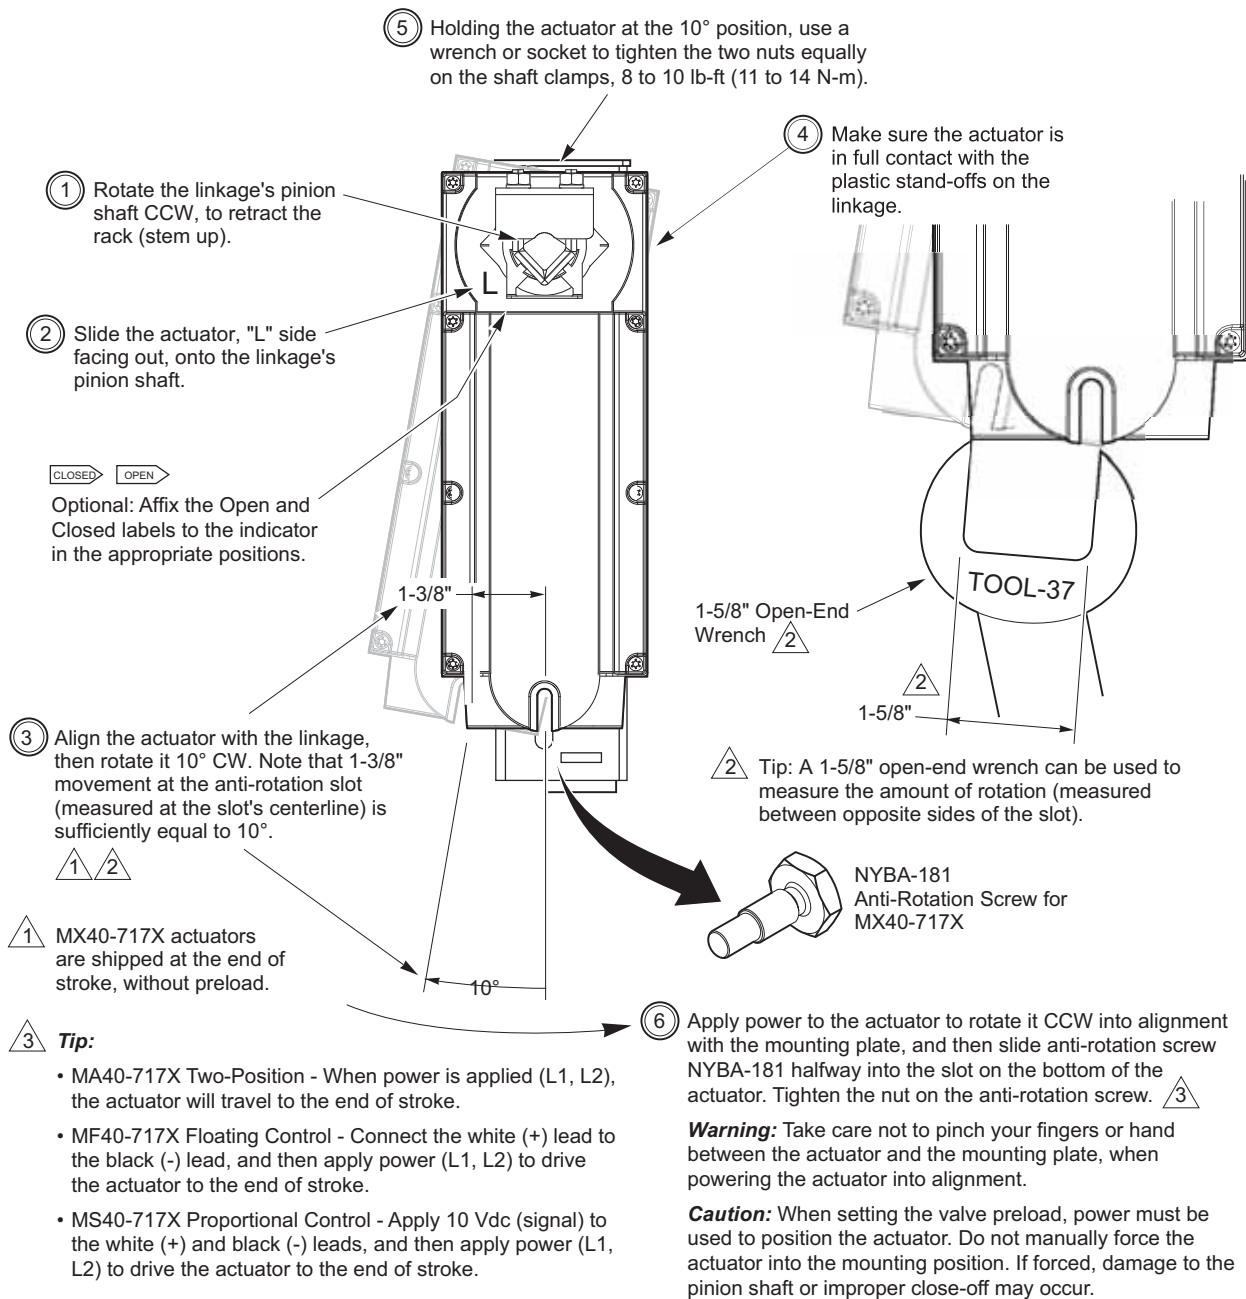

Figure-5 Mounting MX40-717X and Setting Up Actuator/Linkage/Valve Assembly.
- a. Install the actuator onto the linkage and 3-way valve, and set up the assembly, according to Figure-5.